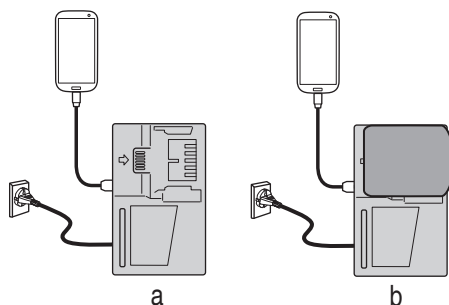

Fig. 49
- Charging a USB device from a electrical outlet (Fig. 49-a).
- Charging a USB device and battery from a electrical outlet.(Fig. 49-b)